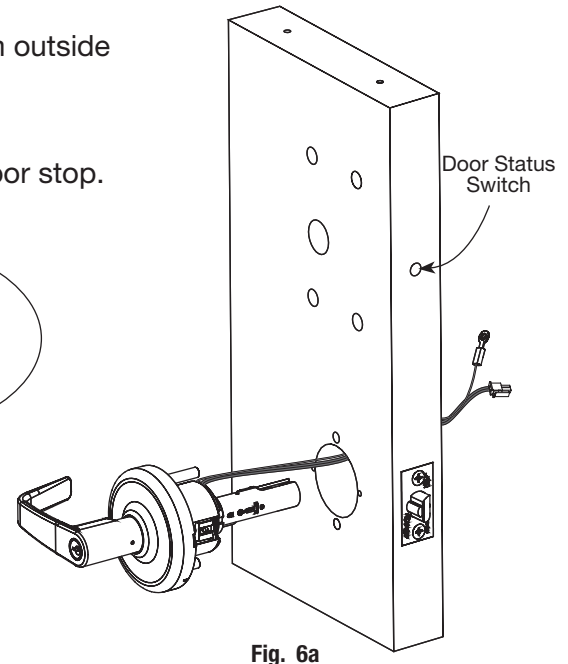

Fig. 6a
- Feed lock body and wires through 2-1/8" diameter hole from outside of door (Fig. 6a).